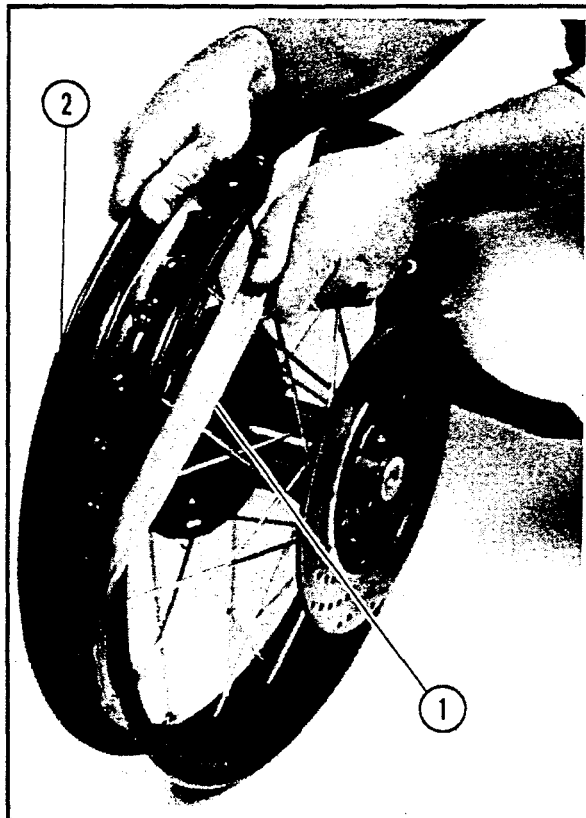

Figure 5-72. Removing Rim Strip
14. See Figure 5-72. Remove and discard rubber rim strip (1) from wheel rim (2).